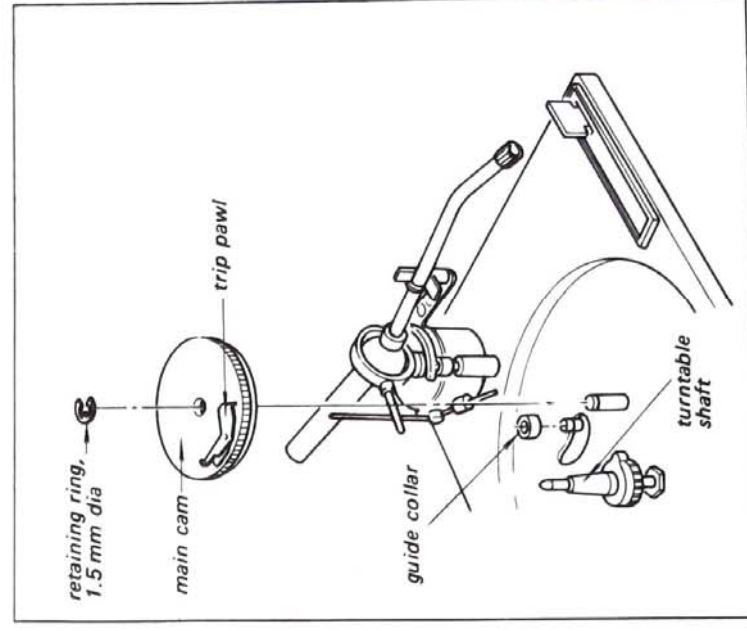

Fig. 2-5. Main cam removal
1. Remove the retaining ring as shown in Fig. 2-5.